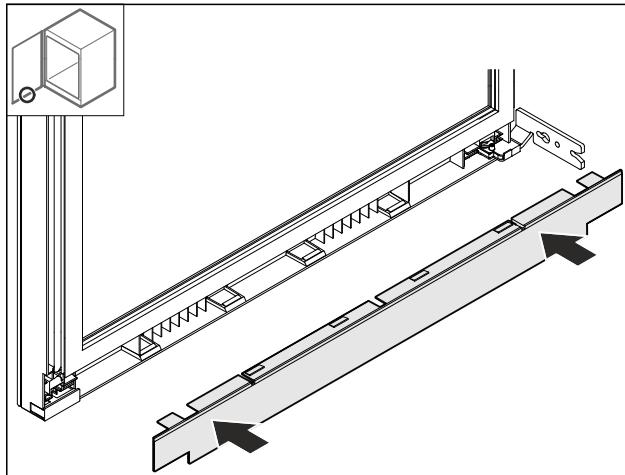

Fig. 28
- ▶ Insert the bottom hinge Fig. 28 (A).
- ▶ Insert the pin Fig. 28 (1) and hold it.
- ▶ Tighten the screw Fig. 28 (2).